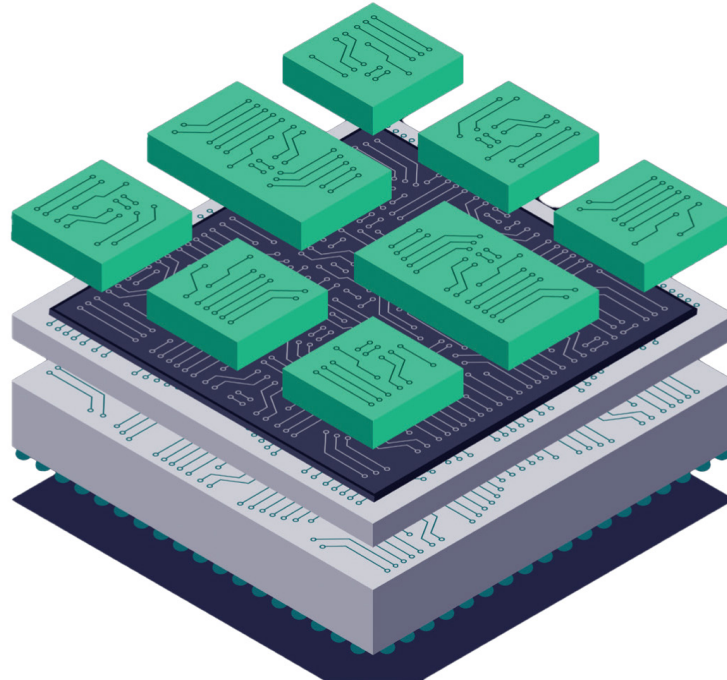

Figure 1. 3D IC assemblies can use a variety of designs.
Unlike integrated circuit (IC) designs, multi-dimensional 2.5D and 3D ICs are composed of multiple individual chiplets, each of which may be built to a separate process node best suited for the specific purpose. There are many different design options for connecting these chiplets: chiplets connected via interposer with bump connections and through-silicon-vias (TSVs), chiplets on package, chiplets on packages with discreet and thinned interposers embedded without TSVs, chiplets stacked on chiplets through direct bonding techniques, chiplets stacked on chiplets with TSVs or copper pillars and more bumps...and the list goes on. Further, any or all of these approaches can be combined on a single 3D IC assembly (figure 1). This flexibility results in multiple components of different materials integrated in all three dimensions, which creates new and unique verification challenges for 2.5/3D IC designers.